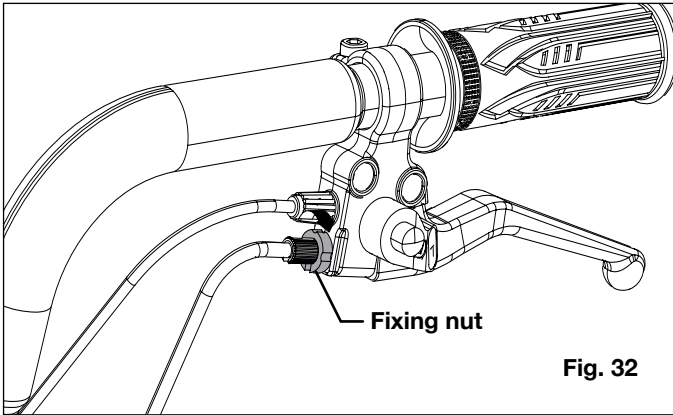

Fig. 32
5. Tighten the fixing nut only by turning it clockwise (Fig. 32).